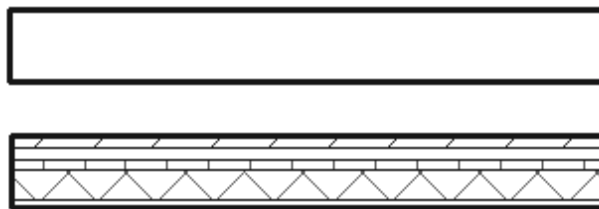

Figure 7–76
4. Some walls are made from multiple layers of materials, such as brick, block, and drywall, as shown on the bottom in Figure 7–76. If the hatching for these materials is not displayed (as shown at the top in Figure 7–76), how do you change this?